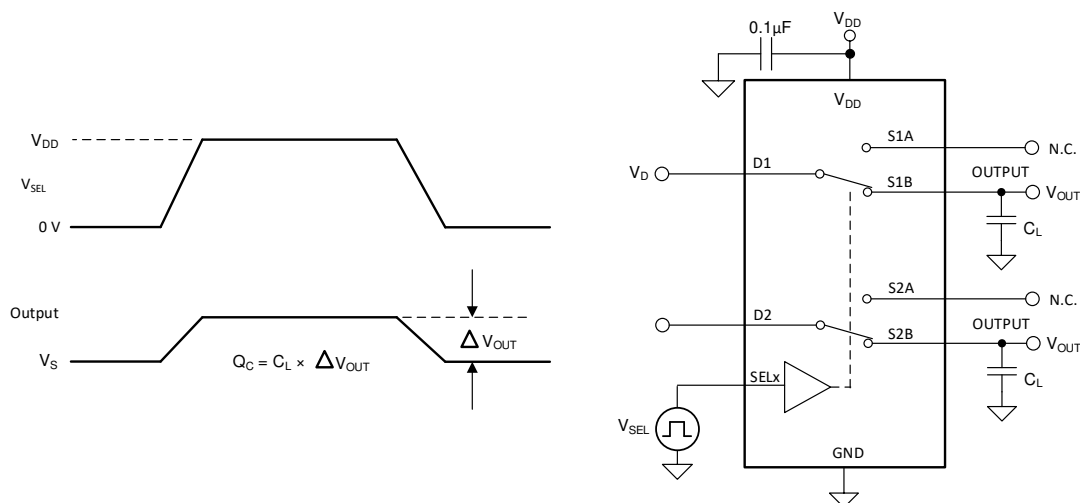

Figure 6-6. Charge-Injection Measurement Setup
The TMUX1136 has a transmission-gate topology. Any mismatch in capacitance between the NMOS and PMOS transistors results in a charge injected into the drain or source during the falling or rising edge of the gate signal. The amount of charge injected into the source or drain of the device is known as charge injection, and is denoted by the symbol Q_C . Figure 6-6 shows the setup used to measure charge injection from Drain (D) to Source (Sx).